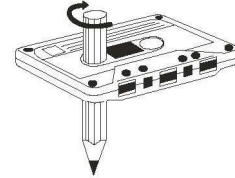

Fig. 2
- Check that there are no loose layers of tape visible through the cassette center window (see Fig. 1). Take up any loose layers, using a pencil or hexagonal barrelled ballpoint pen, before inserting the cassette into the machine (see Fig.2)
If the cassette feels tight while performing operation shown (see Fig.2), the tape may be jamming due to ridges formed in the winding of the tape (visible through the center window). These may be removed, in most cases, by fast winding of the cassette from one end to the other and back again.